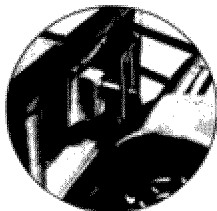

FIGURE 3
Install as shown in Fig. 3 and outlined under "Installation of Saw"
The Motor Mount Bracket should be installed as shown in Fig. 3.
- Fasten the motor rail bracket, No. 20, to the rear of the saw so it is flush with the bottom of the base. Use the two (2) slotted head machine screws, No. 26, lock washers, Nos. 19 and 27 and hex nuts, Nos. 18 and 28 provided.
- Turn the guide pin, No. 34, into the hole at rear of saw body as shown in Fig. 3.